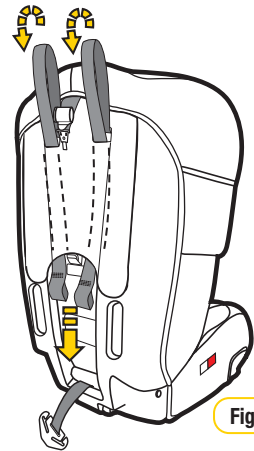

Figure 6
Step 7: Rethread the shoulder straps behind the back cover plate (refer Figure 6).